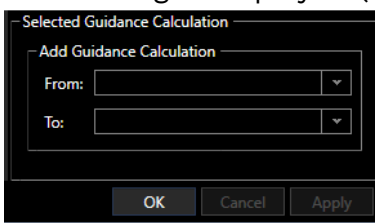

FIGURE 12-5 GUIDANCE CALCULATIONS - SELECTED GUIDANCE CALCULATION DIALOG
2. The Selected Guidance Calculation Dialog is displayed (Figure 12-5)